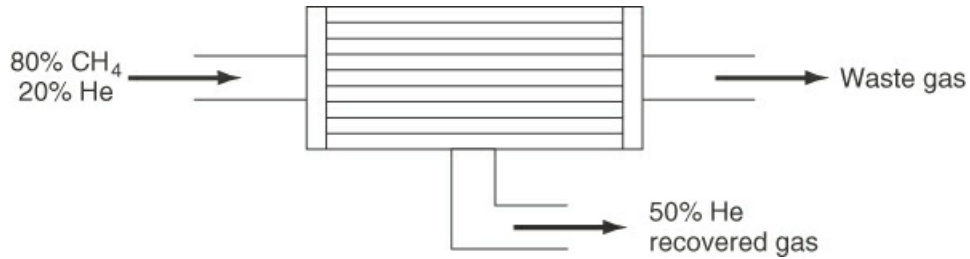

Figure P3.4.8
- **3.4.8 A gas containing 80% CH₄ and 20% He is sent through a quartz diffusion tube (see Figure P3.4.8) to recover the helium. Twenty percent by weight of the original gas is recovered, and its composition is 50% He. Calculate the composition of the waste gas if 100 kg moles of gas are processed per minute.